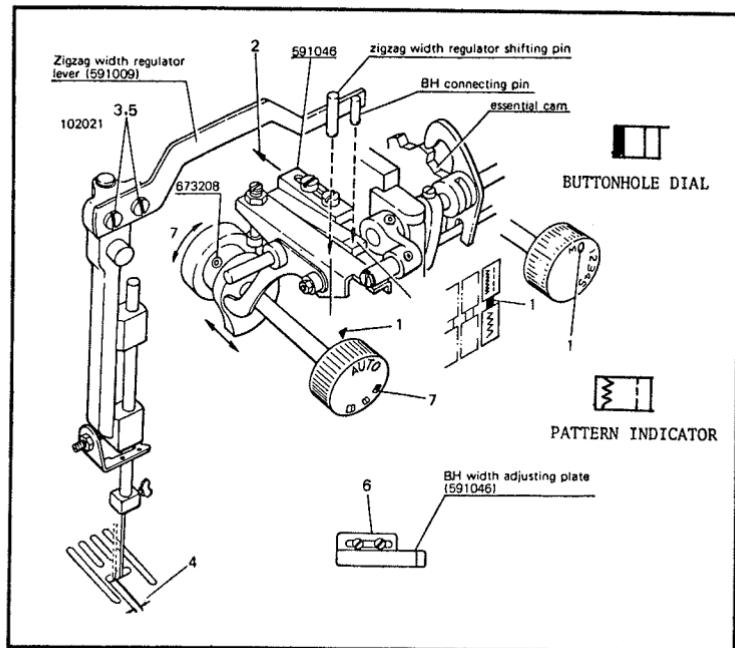

Fig. 6-29. Adjusting the entry of the needle into the needle plate slot on the Model 592.
On Model 592, when the zig-zag width regulator is set at 0, the buttonhole dial at AUTO and the pattern indicator at the mark shown in Fig. 6-29, the clearance between the needle and the left side of the needle plate slot should be about .2mm. To make this adjustment, set the zig-zag width regulator dial at 0, the buttonhole dial at AUTO and the pattern indicator at the mark as shown in Fig. 6-29. Loosen the set screws of the slotted BH width adjusting plate (591046) and move the plate to the end of its slotted adjustment, in the direction shown by the arrow (2). Tighten the set screw lightly. The final position of the BH width adjusting plate will be set with the adjustment of the buttonhole stitch width. Loosen the set screws
When the buttonhole dial is set as shown in Fig. 6-29, turn the cam slightly so that the oscillating regulating arm (591044) comes into the concave of the cam. Tighten screw (673208), move (591046) to center and tighten the screws.